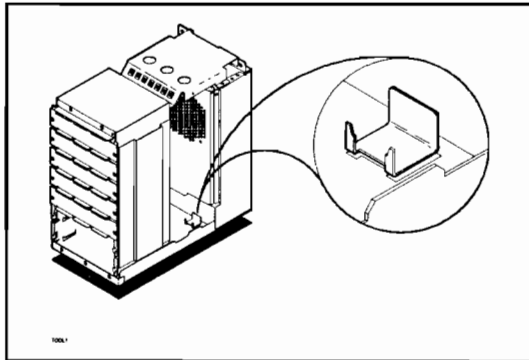

Figure 2-15. Locating the Power Connector Tool
- a. Locate the power connector tool (see Figure 2-15).